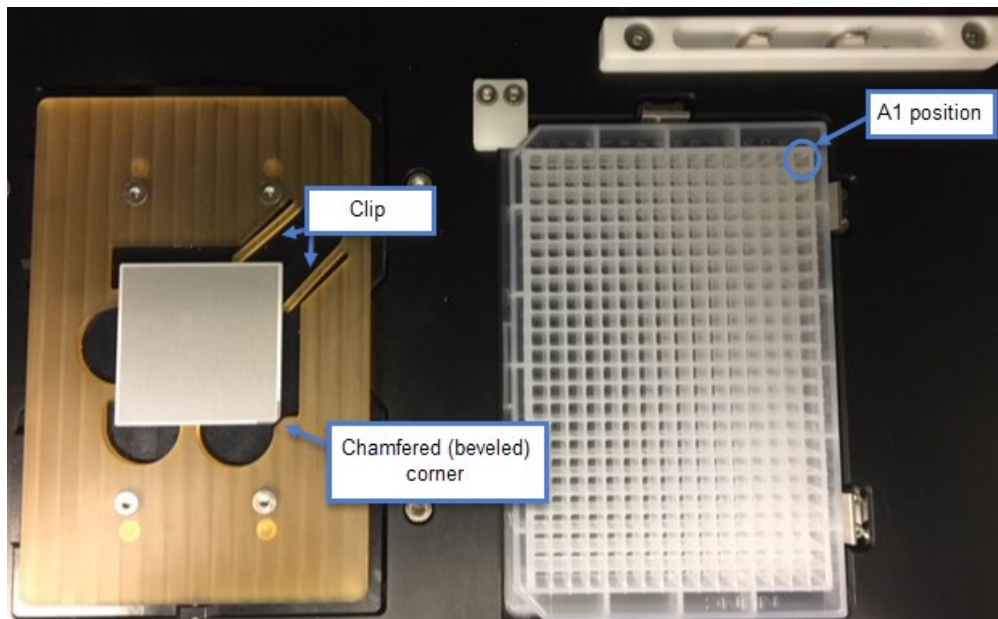

Figure 3. ICeLL8 ex Single-Cell System Stage Module. (Left) chip nest. (Right) source plate nest.
- All dispensing steps in the ICELL8 cx Single-Cell System Stage Module should be performed with a 384-Well Source Plate oriented with the A1 well positioned at the top-right corner of the 384-well plate nest (Figures 3 and 4, below). The source plate must be fully seated. This may be accomplished by pushing the source plate down after it has been placed on the plate nest.
- All dispensing steps in the ICELL8 cx Single-Cell System Stage Module should be performed with the chip oriented with the chamfered (beveled) corner positioned towards the bottom-right corner of the chip nest (Figure 3, next page).
2. Place the chip on the chip nest in the ICELL8 cx Single-Cell System. The chamfered (beveled) corner of the chip should align with the chamfered corner of the chip nest (refer to Figure 3, above, or the ICELL8 cx Single-Cell System User Manual, Section X.A).